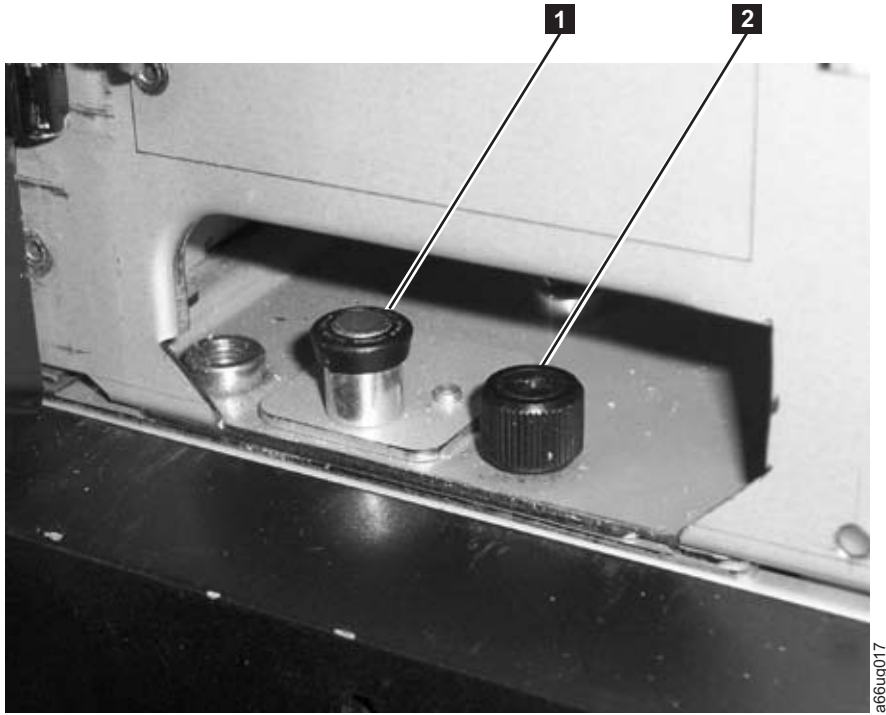

Figure 4-15. Module-to-Module alignment pin and front thumb screw
3. Ensure that the module-to-module alignment pin (**1** in Figure 4-15 on page 4-15) is in the raised position. If necessary, raise the pin and rotate it half a turn to lock it in the raised position.
9. Twist the upper module alignment pin ( **1** in Figure 4-15 on page 4-15) to unlock it from the up position.
11. Tighten the front thumb screw ( **2** in Figure 4-15 on page 4-15) and the thumb screw behind the I/O Station door to secure the front of the upper module to the lower module.